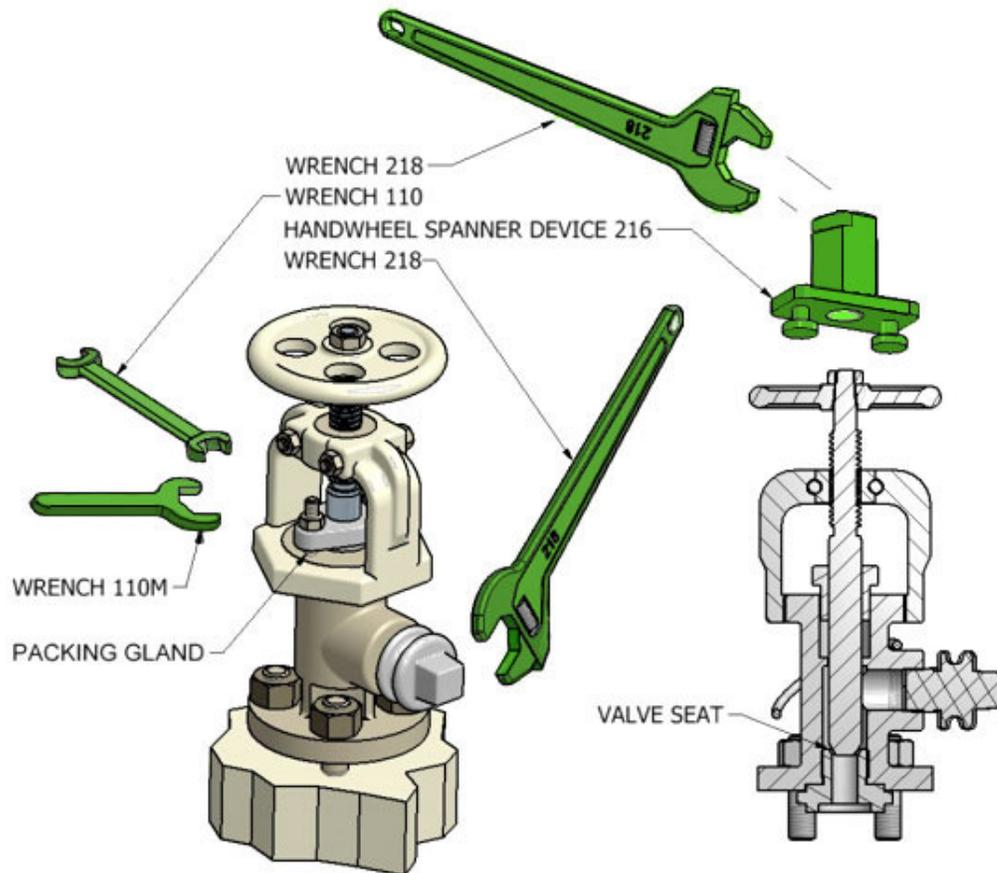

Figure 4.1 – Angle Valve Packing Gland Leak Points and Required Tools
- A) Close valve by hand or use HANDWHEEL SPANNER DEVICE 216 with WRENCH 113, and WRENCH BAR 113C if additional force is required (See Figure 4.1). This should stop a packing leak. If it does not stop the leak, there is a valve seat leakage problem. See Section 4.2 about valve seat leaks.
- A) Insert valve outlet plug using WRENCH 218 (See Figure 4.1). Open and close valve by hand or use HANDWHEEL SPANNER DEVICE 216 with WRENCH 113, and WRENCH BAR 113C if additional force is required. Carefully remove plug, wait a moment for the trapped chlorine to escape. Test for leaks.